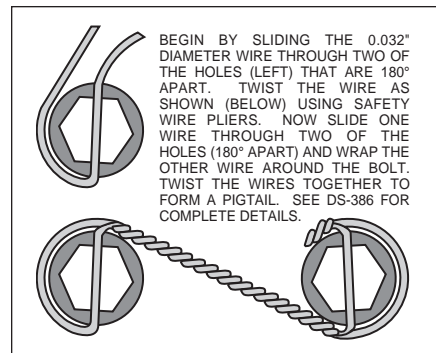

Figure 3. Safety Wire Diagram
- With the larger I.D. side of the rotor (7) facing away from the hat (8), bolt rotor (7) to hat (8) through the backside of the rotor using bolts (9), and washers (10). Torque bolts (9) in an alternating sequence to 85 **in-lb**. Safety wire bolts (9) using standard 0.032 inch diameter stainless steel safety wire as shown in Figure 3. Please refer to Wilwood's data sheet DS-386 (available at www.wilwood.com/pdf/ds386.pdf) for complete safety wire installation instructions. Slide the rotor/hat assembly onto the spindle. Check to be sure the hat seats squarely against the hub. Install a couple of lug nuts (finger tighten) to keep the rotor/hat assembly in place while continuing with the installation.